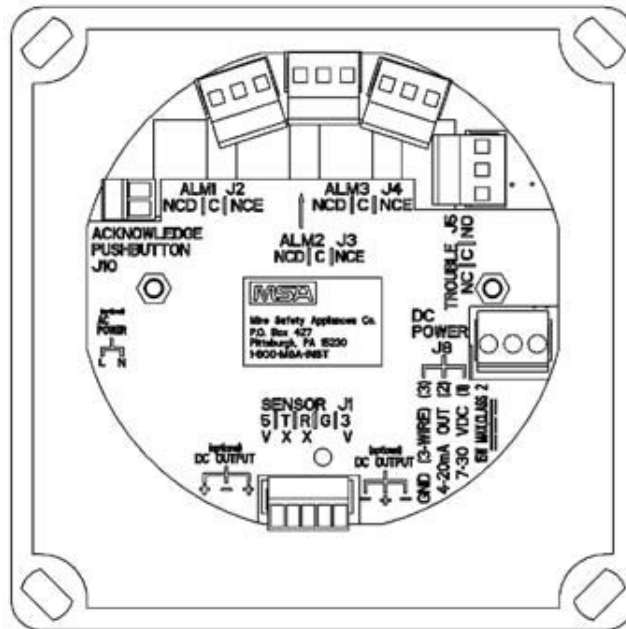

Fig. 29 Relay Contacts
- During normal operation, the relay contacts are normally closed (NC) and normally open (NO) as shown in Fig. 29.
NOTE: Fig. 29 depicts the version of the printed circuit board assembly without HART components. Fig. 17 is the equivalent HART version.
All electrical connections to internal relays can be made directly on the pc board (see Fig. 29).